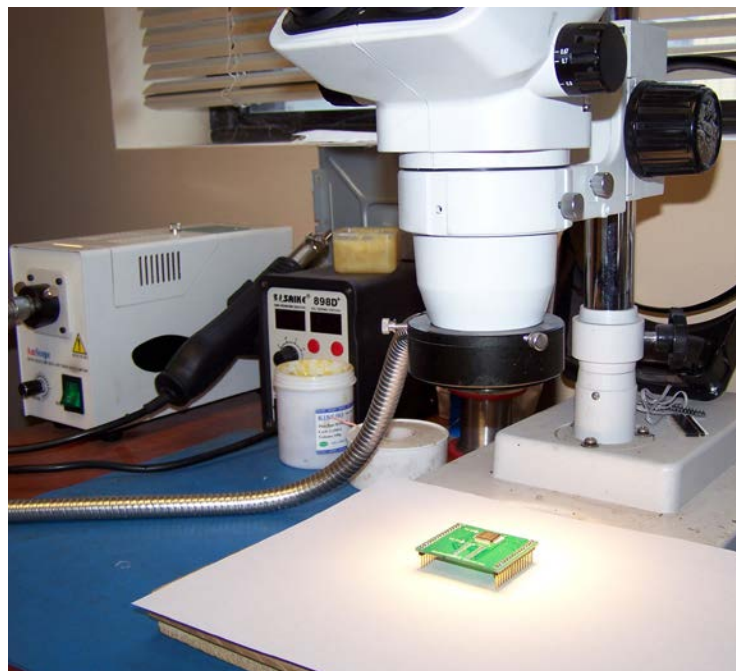

Figure 19 Using Inspection Microscope to control soldering quality
**Note:** After MCU installation, make sure there are no shorted pins on the MCU and the adapter board. The MC805P18-Programmer 'Pin Tester' is not able to detect the shorted pins. To spot the shorted pins use an inspection microscope (Figure 19).